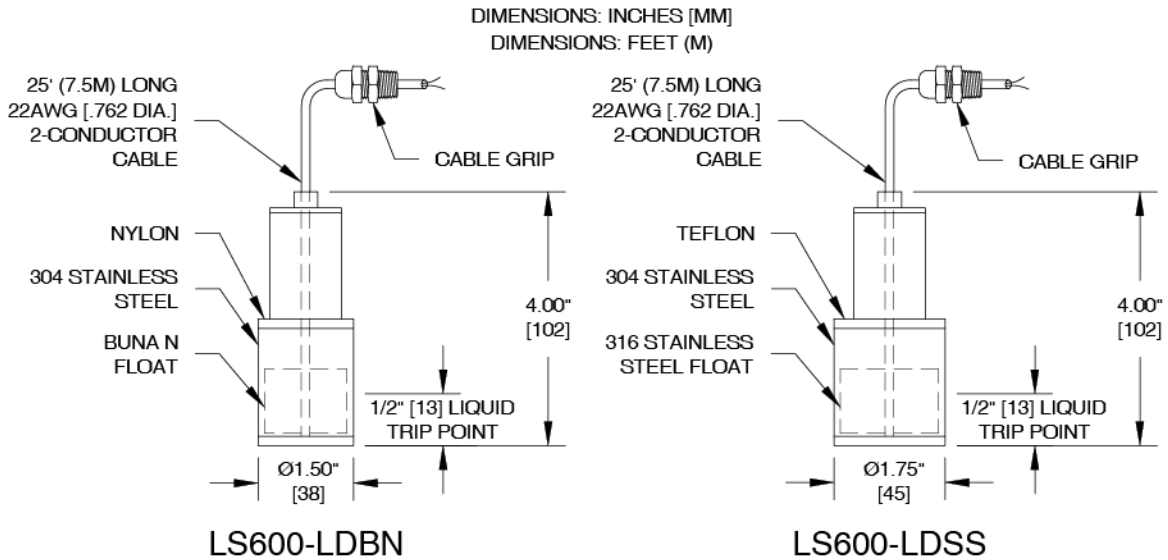
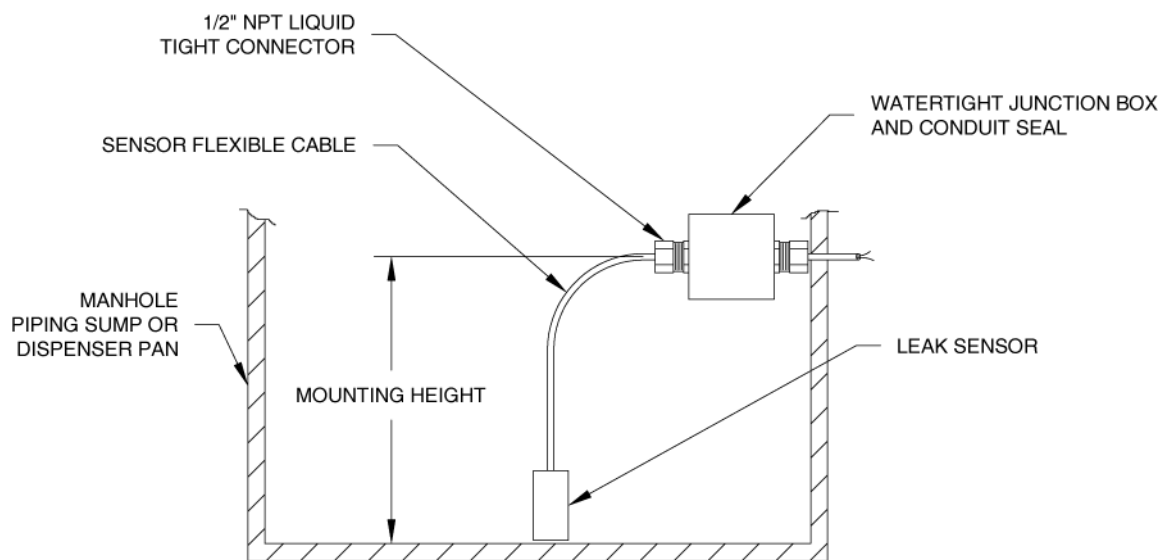

Figure 1-4 – LS600 LD Series
**Figure 2-2 - Leak Sensor Installation - Steel Vaulted Tanks**
As described in Section 1.1, the LC2000 will interface to all of the TMS series sensor model types, including discriminating and non-discriminating electronic or mechanical secondary containment leak sensors as well as single and multi-point level float sensors. Figures 1-4 through 1-8 show five (5) typical sensor types offered by Pneumercator. Other non-Pneumercator mechanical types may be used; however, their use with LC2000 should be approved prior to attempting to wire them into the system.
Check the specific design drawings for the job, or choose the sensor type desired from Figures 1-4 and 1-5. Install sensor per Figure 2-2 as follows:
Check the specific design drawings for the job, or choose the sensor type desired from Figures 1-4 and 1-5. Install sensor per Figure 2-3 as follows:
2. At appropriate locations along the conduit runs (see Figures 2-2 through 2-5) install watertight couplings and approved VAPOR SEAL-OFF fittings.